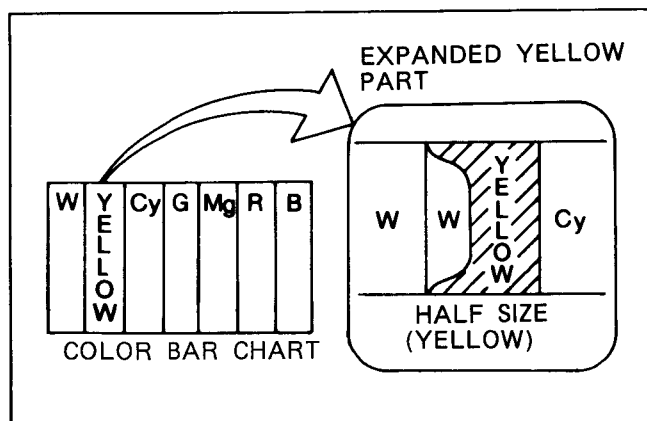

Fig. C27
- (1) Connect the jumper wire among TP511, TP512 and TP513 to cut the R-Y, B-Y feed back line.
- (2) Aim the camera at the color chart. (color bar).
- (3) Set the horizontal picture frame (H size) to 40usec, and memorize the level of yellow part.
- (4) Set the horizontal picture frame to 18usec.
- (5) In case that the level of yellow part is more than 50% compared with the yellow level of when horizontal picture frame is 40usec : Adjust the VR309 so that the level of yellow becomes 50% as shown in Fig. C27.
- (6) In case that the level of yellow part is already less than 50% of when the horizontal picture frame is 40usec. Adjust the VR309 until just before yellow part begins to disappear.